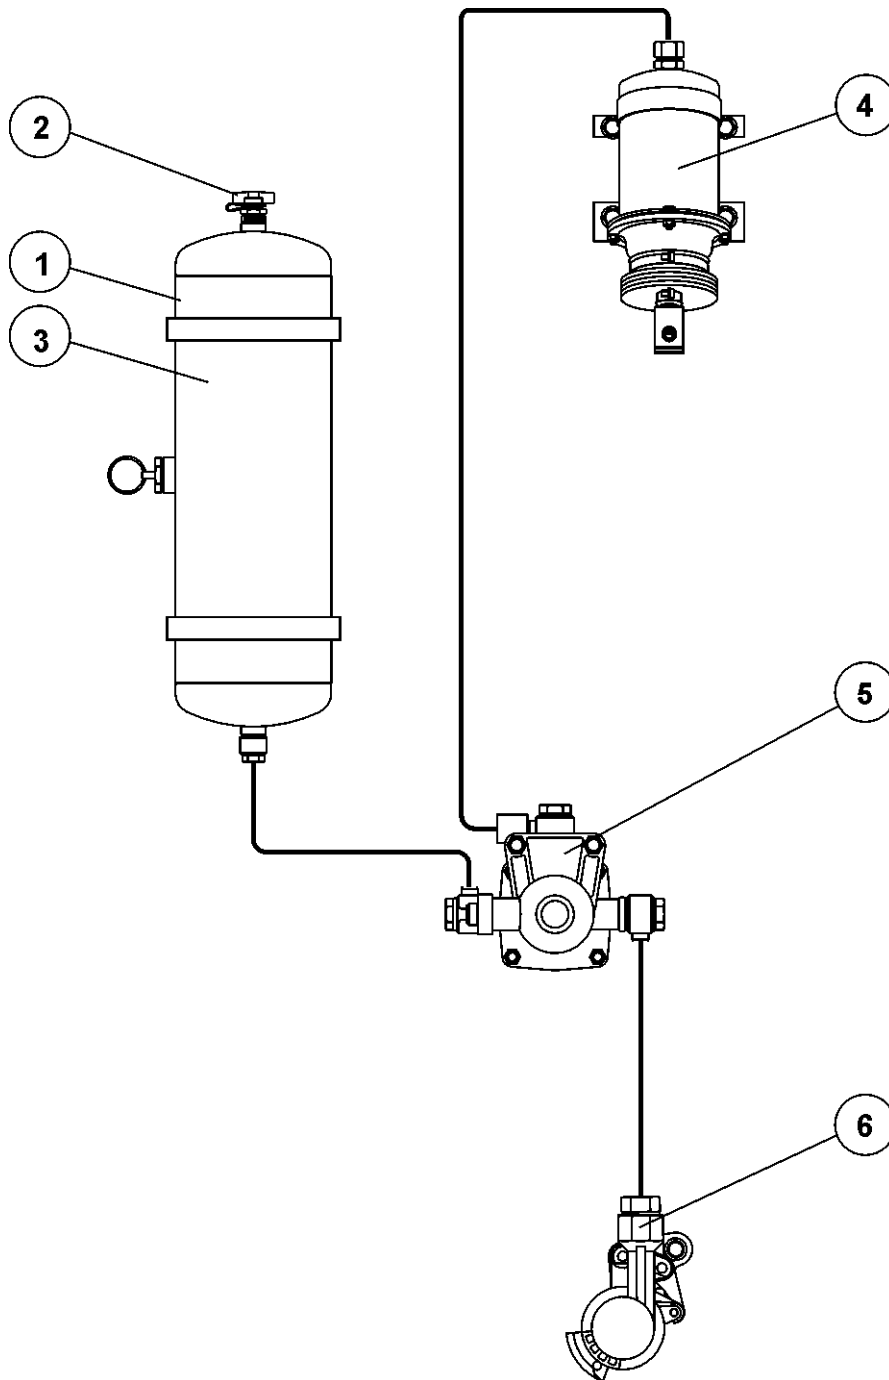

Fig. 6. Pneumatic brakes system diagram
Overrun brake is activated when tractor brakes due to the inertial force of the trailer. During braking the drawbar eye is activated (position 1 figure 6), and the lever system with cable (5), which drives the brake system of the axle. When reversing, the axle brake is disengaged automatically.